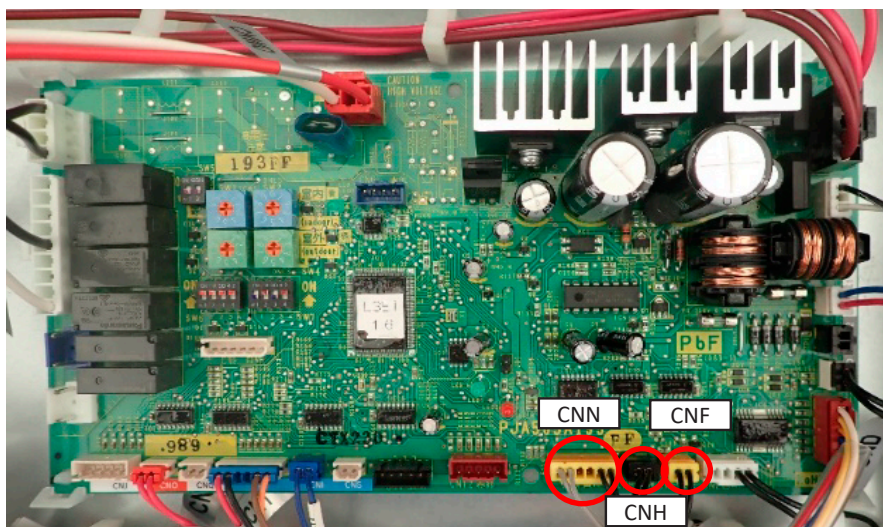

Fig21-1. Control PCB
(8) Temperature sensor (Thi-R1, R3, A, AF)
- (a) Disconnect the Thi-R1, R3, A, AF connector (CNN, CNH, CNF) on PCB in control box. (○ mark, Fig.21-1)